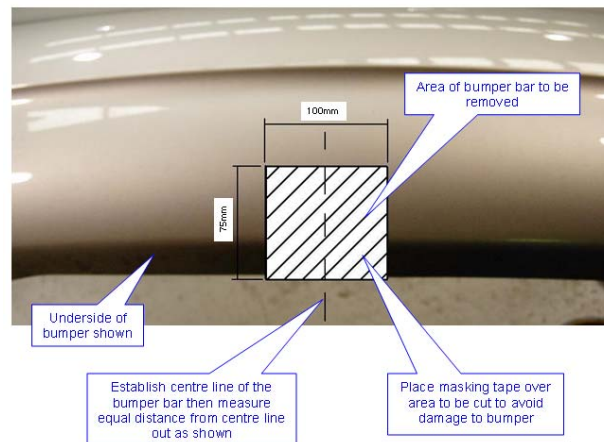

Figure 2 – Bumper Cut out Diagram.
5. Cut the bumper as illustrated in Figure 2.